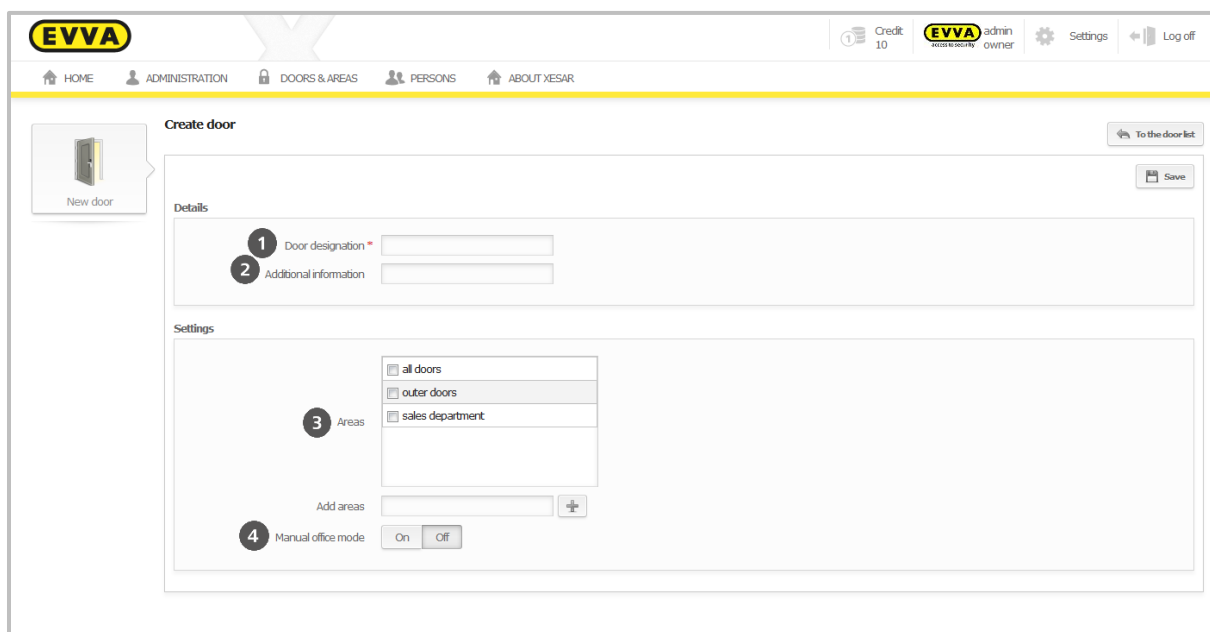

Figure 73: Creating doors
When you create doors it is important to enter a unique **Door designation** ❶ (mandatory field) to safeguard the doors in the software can be assigned to the doors within the facility, e.g. Main entrance. There is also the **Additional information** field ❷ (optional field) intended for additional door information, e.g. the room number (Figure 73: Creating doors).
Select the areas to which you would like to add doors in the **Areas** field ❸. You can also create additional areas in this section (Figure 73: Creating doors).